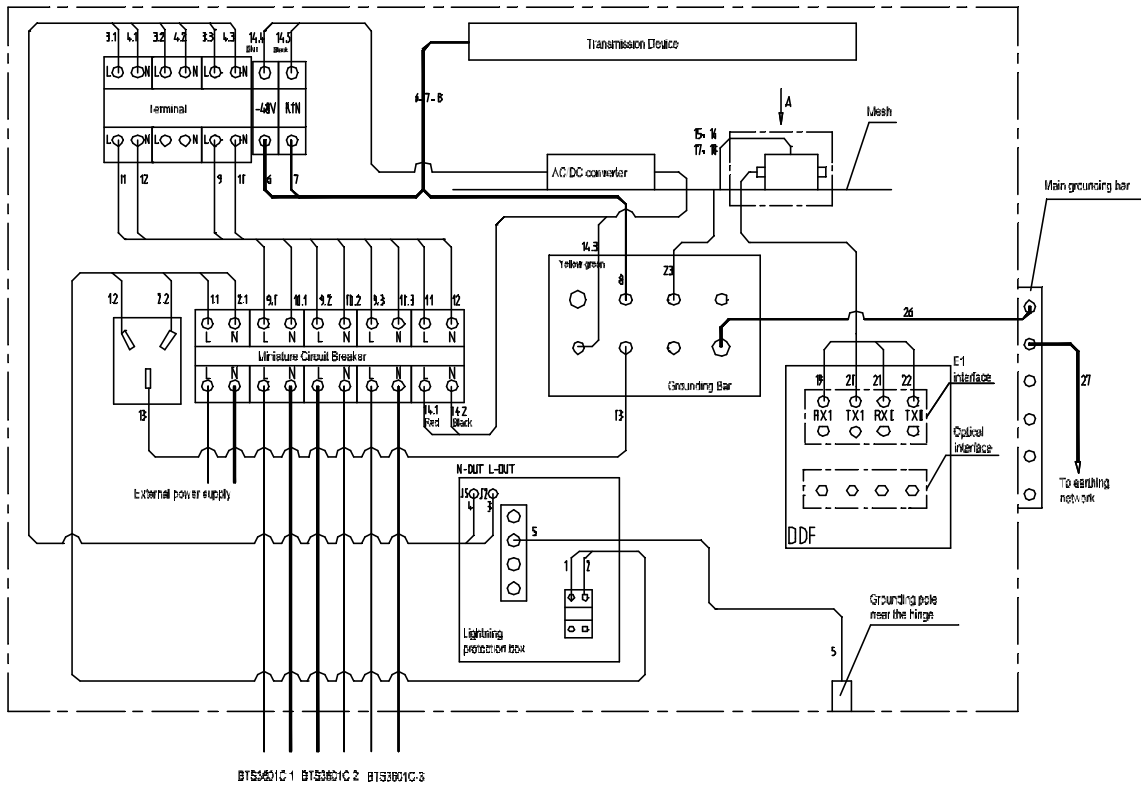
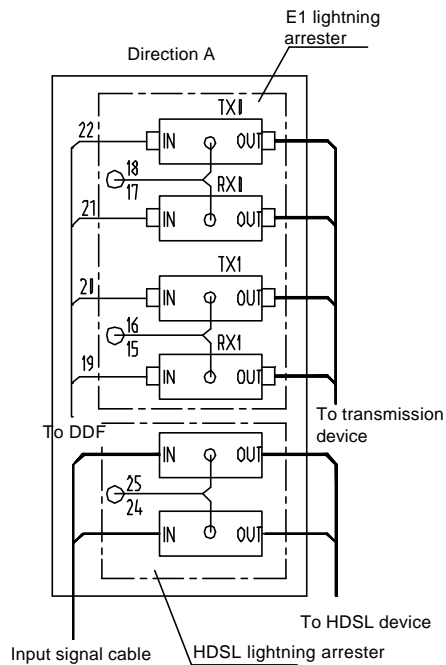

Figure 2-54 Cable distribution of IAFB networking (without UPS)
Figure 2-55 Trunk cable distribution of IAFB networking (without UPS)
Please connect the relevant cables correctly according to the labels on them, the correspondence shown in Figure 2-54 and Figure 2-55, and the correspondence between labels and cables shown in Table 2-3.
- 1) Figure 2-55 shows the front view of cable connection on DDF shown in Figure 2-54.